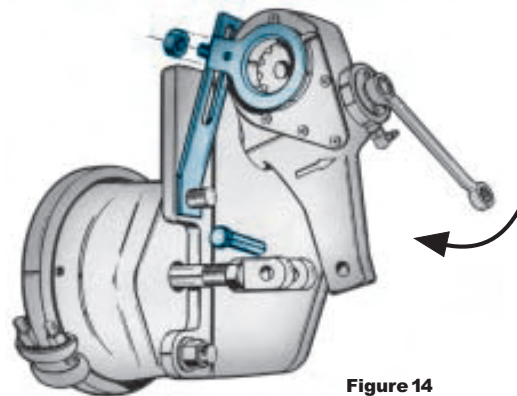

Figure 14
- Install the brake adjuster onto the camshaft with the adjusting hex pointing away from the brake chamber (fig. 14).